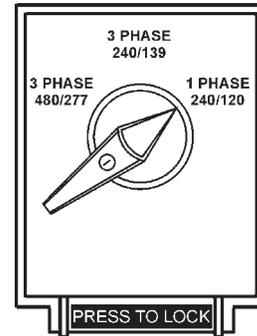

**Figure 28. UVW Terminal Lugs 480/277V Three Phase Connections**
2. Connect the load wires to the **Output Terminal Lugs** as shown in Figure 28.